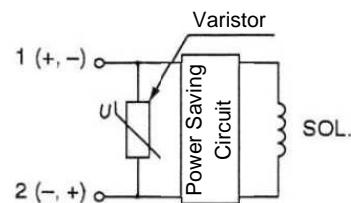

Figure 10. Without electrical option
- Valves contain an integrated power-saving circuit. See figures 10 & 11 below.